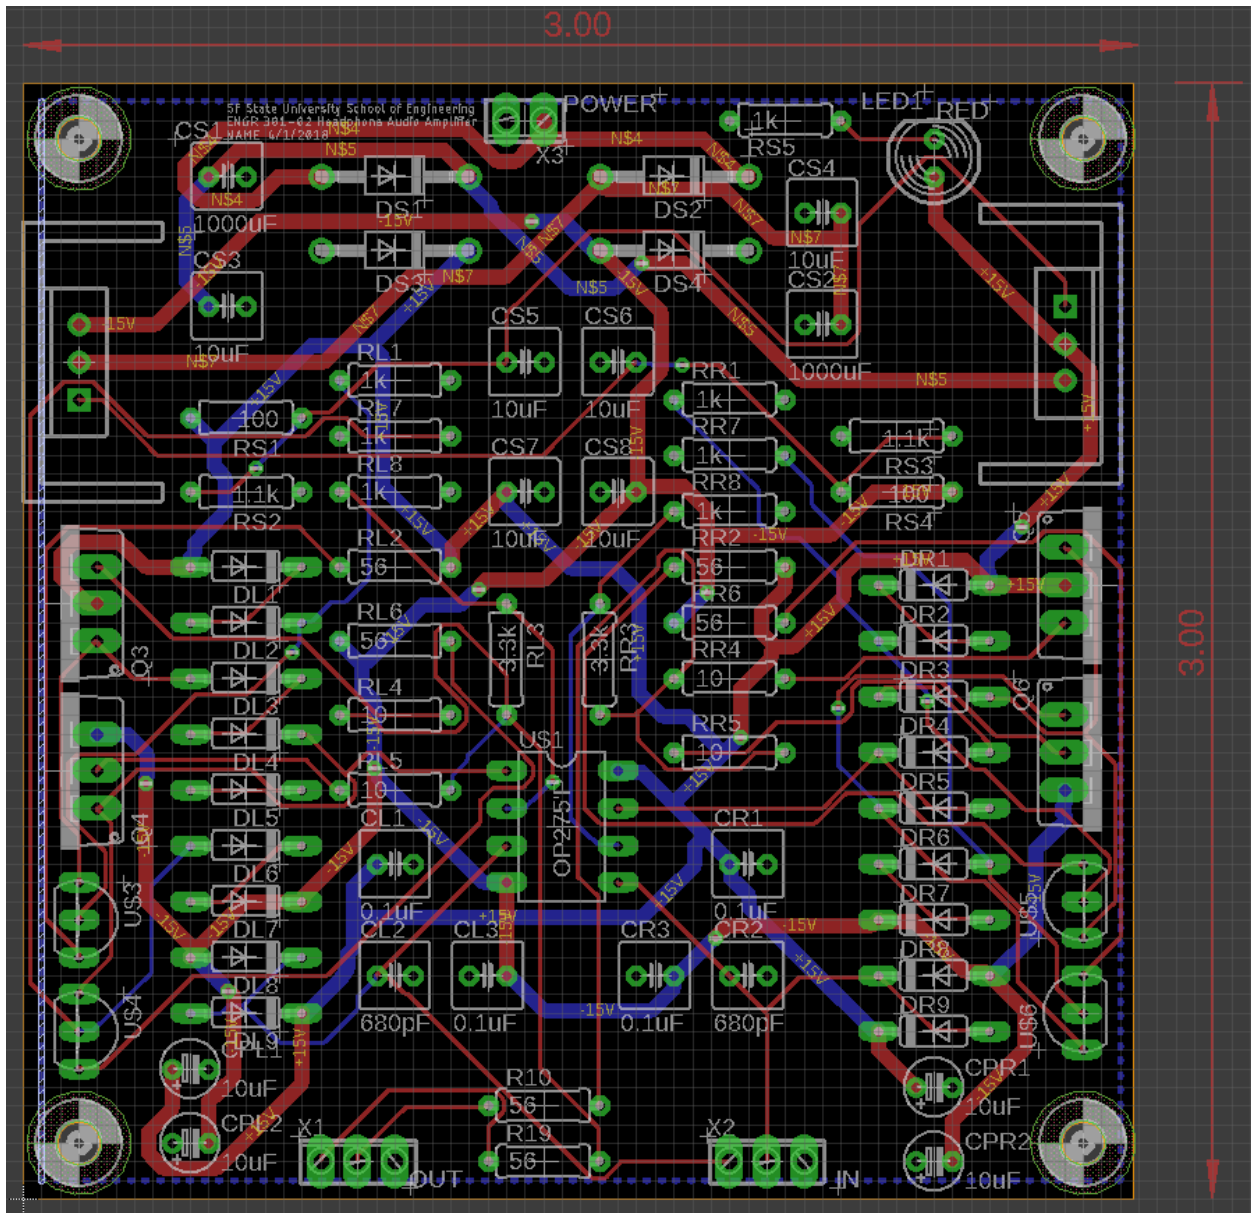

Figure 2: Final Project Board Layout
- 3.) You should aim to have relatively clean board. To minimize crammed board, you may move around component names/values, delete certain component names, rename components, decrease text fonts, etc. See Figure 2.